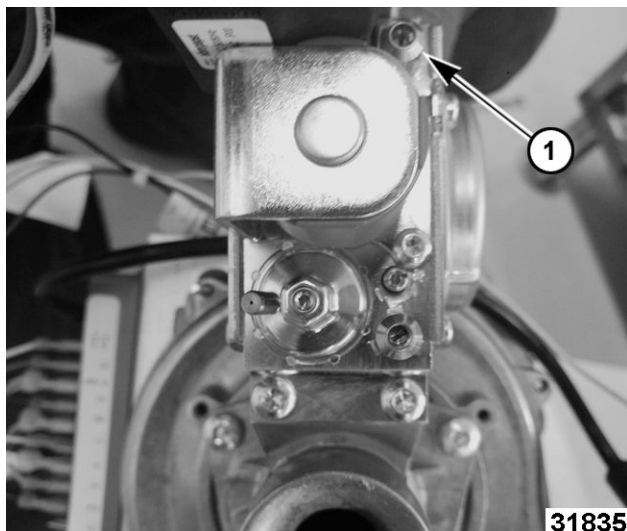

Fig. 46
- A. Loosen screw with flat head screwdriver (1, Fig. 46) to open pressure tap.